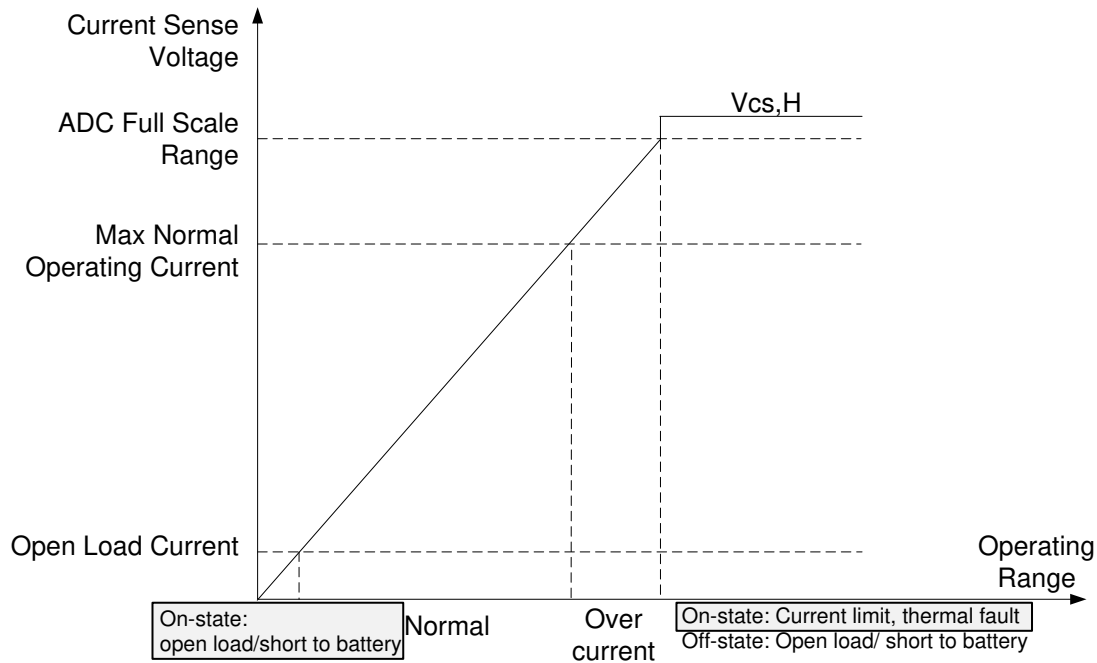

Figure 46. Step 1: Short-to-GND Detection in the On-State
1. In the on-state, for the current-sense version device (version B), on-state open load and short to battery are recognized as an extremely-low voltage level on the current-sense pin, whereas short to GND is reported as a pulled-up voltage $V_{CS,h}$. Therefore, the user can find a short to GND (see Figure 46).